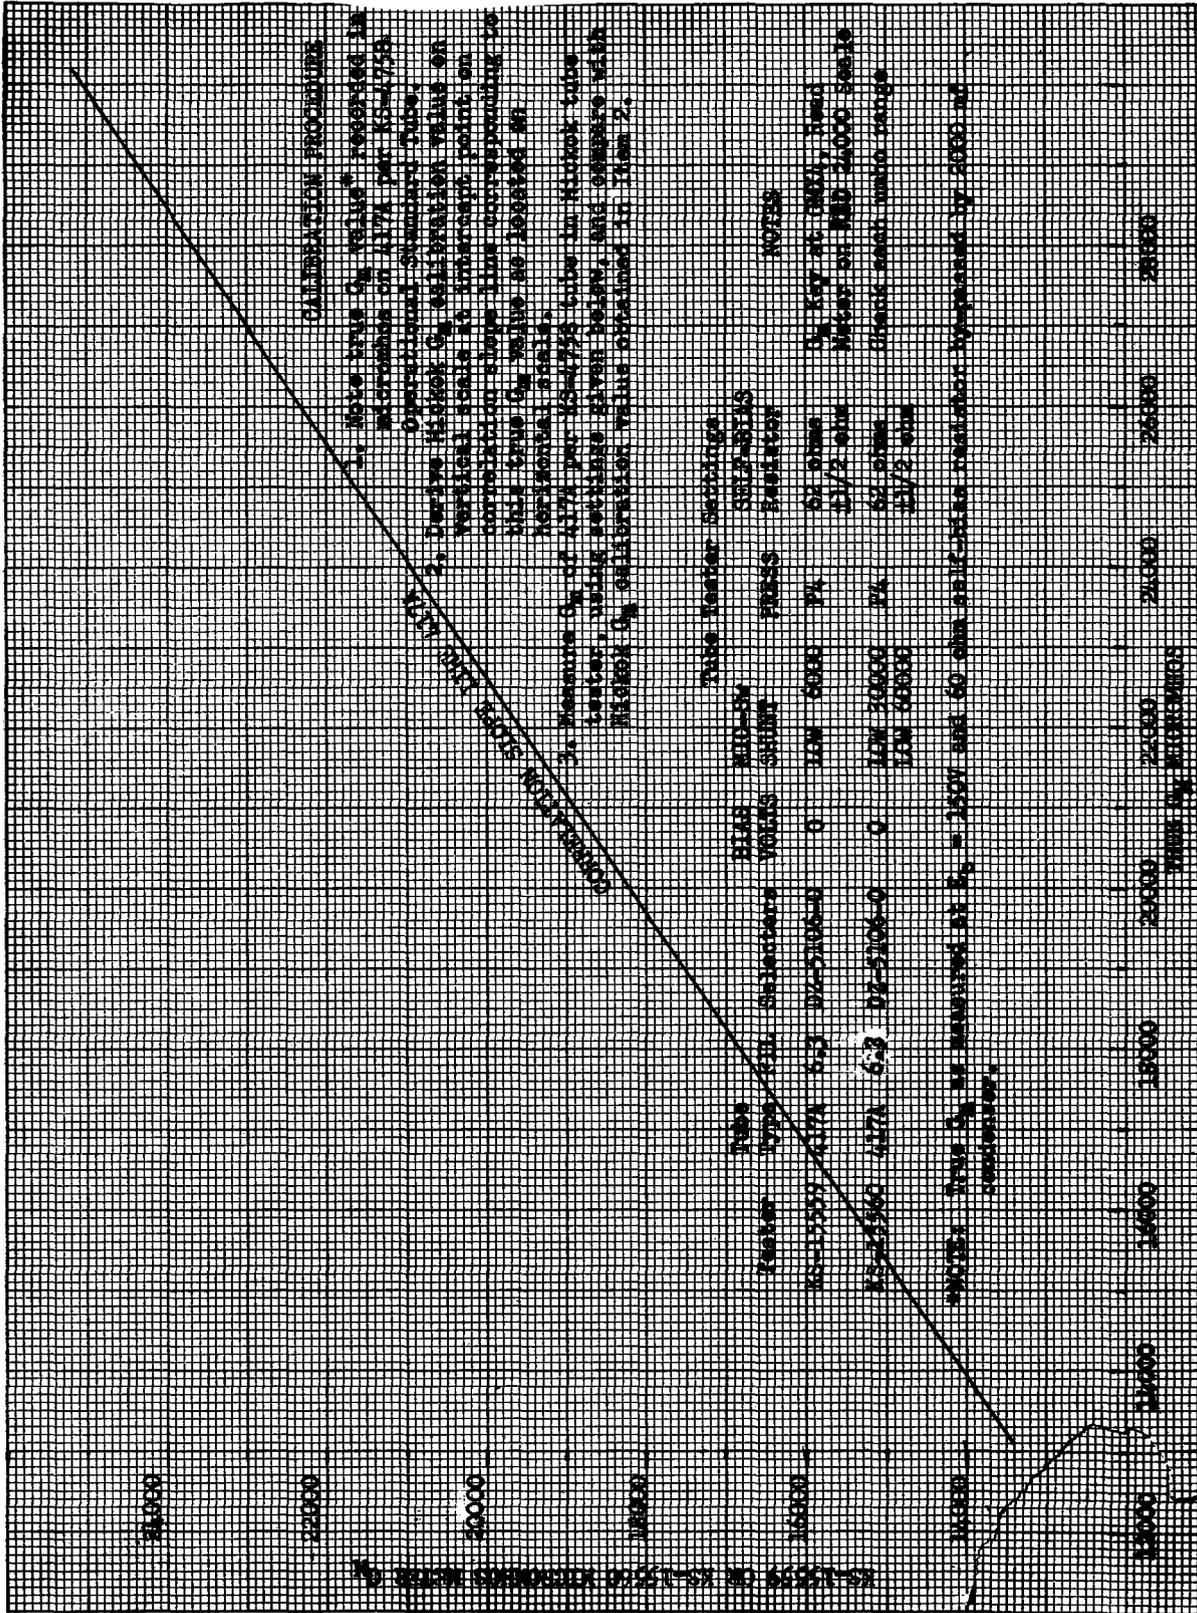

Fig. 9 - Calibration Data, 417A per KS-4758
5.12 LOW SIGNAL 60,000 (1/4 volt) Grid Signal Test - Self-bias Operation: An operating test is made using a Western Electric Company operational standard 4L7A tube per KS-4758. The calibration chart (Fig. 9) for this tube is used to establish the Hickok Gm micromhos reading as described on this chart. This Hickok Gm value will be used as the standard value with which the measured Gm is compared. This operating test is made in accordance with the tube tester settings noted on the calibration chart (repeated here) with CATH. ACT. switch at NORMAL and the proper self-bias resistor connected across the unstrapped SELF BIAS binding posts. The micromhos meter reading is compared with the derived calibrated value for this tube.
Requirement: The measured Gm should be within ± 6 per cent of the value derived from Fig. 9 for the true Gm marked on the operational standard tube.